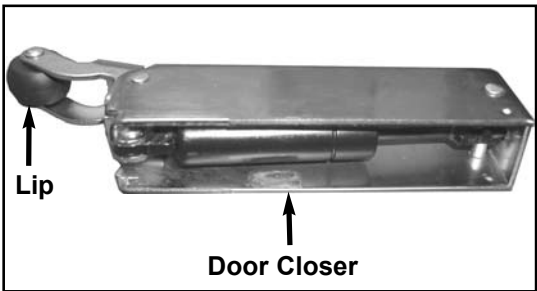

Figure 2
2. Apply Door Closer to Door Closer Mounting Base by starting with Lip side first. If needed, use a soft mallet or equivalent to tap Door Closure on to the Mounting Base. See **Figure 2, 2a & 2b**